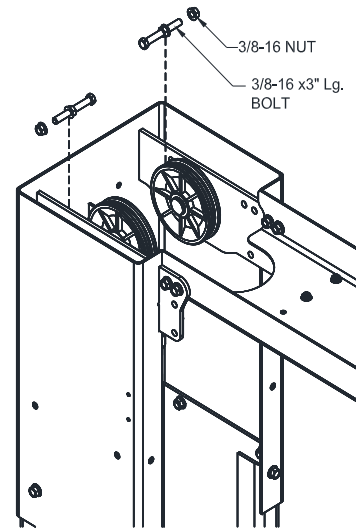

**Fig. 6 – Overhead Assembly**
- 20) Before raising overhead into position install 4 each (2 per column) hex flange bolts and nuts in middle hole of column extension (see **Fig 6 Installation Aid**) for temporary support of overhead. Lift overhead assembly up into position and install with 8 each (4 per column) 3/8-16 x 3/4" lg hex flange bolts and hex flange nuts per side as shown in **Fig 6**.